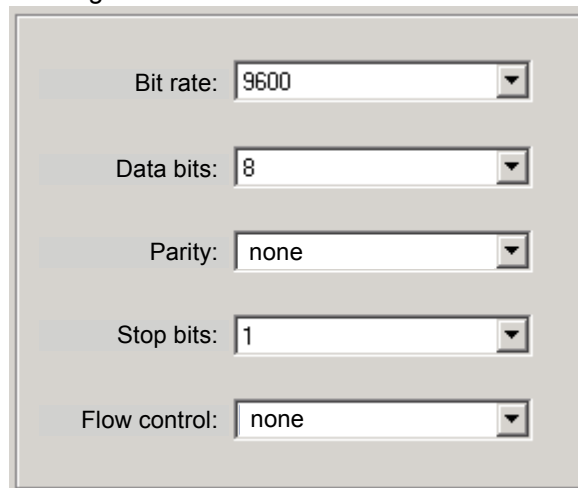

Figure 5.6: Connection settings for RS485
4. Fill in the values like in Figure 5.6 and confirm with OK.